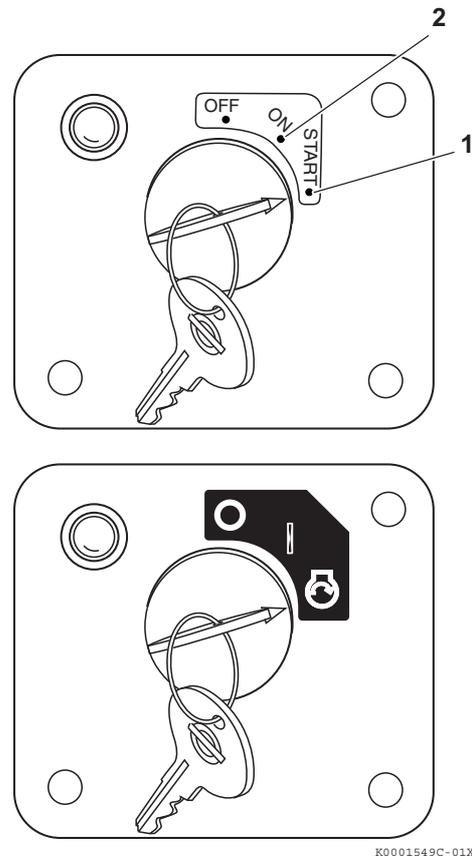

Figure 14
- Turn the key clockwise to the START position (**Figure 14, (1)**). Release the key as soon as the engine starts. It will return to the ON position (**Figure 14, (2)**).